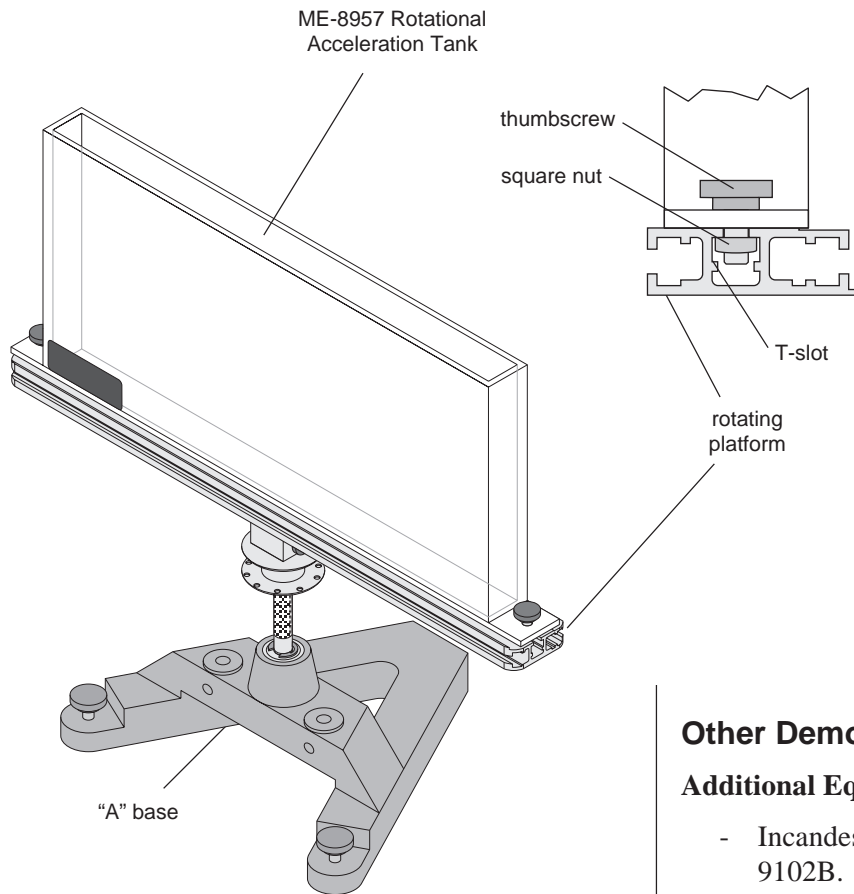

Figure 2: Rotational Acceleration Tank Setup
- ① Assemble and level the ME-8951 Rotating Platform. Include the ME-8955 Rotational Motor Drive if desired.
- ② Center the Rotational Tank on the rotating platform, so that the mounting Tabs are aligned with the slot on top of the Rotating Platform. Slide into place and secure with the T-slot attachment screws. See Figure 2.